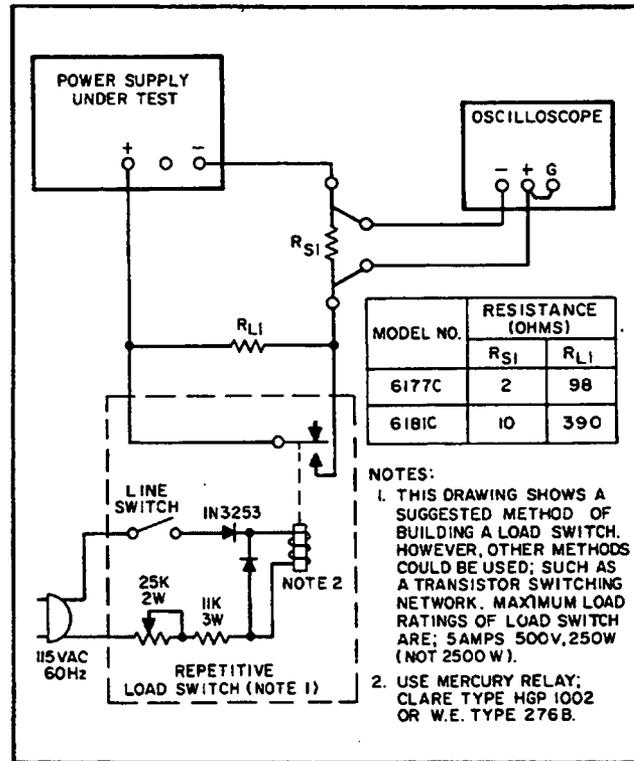

Figure 5-5. Load Transient Recovery Time, Test Setup
**5-27** A mercury-wetted relay, as connected in the load switching circuit of Figure 5-5 should be used for loading and unloading the supply. When this load switch is connected to a 60Hz ac input, the mercury-wetted relay will open and close 60 times per second. Adjustment of the 25K control permits adjustment of the duty cycle of the load current switching and reduction in jitter of the oscilloscope display.
- a. Connect test setup shown in Figure 5-5.